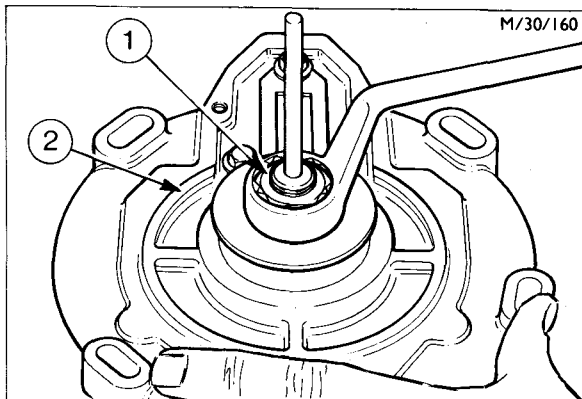

Fig. 62 - Installing a New Bearing Cup
1. Fit a new front bearing cup to the front mounting flange using the installer (TOOL NO. CT 9051). Ensure the bearing cup is drawn fully home into its location (Fig. 62).